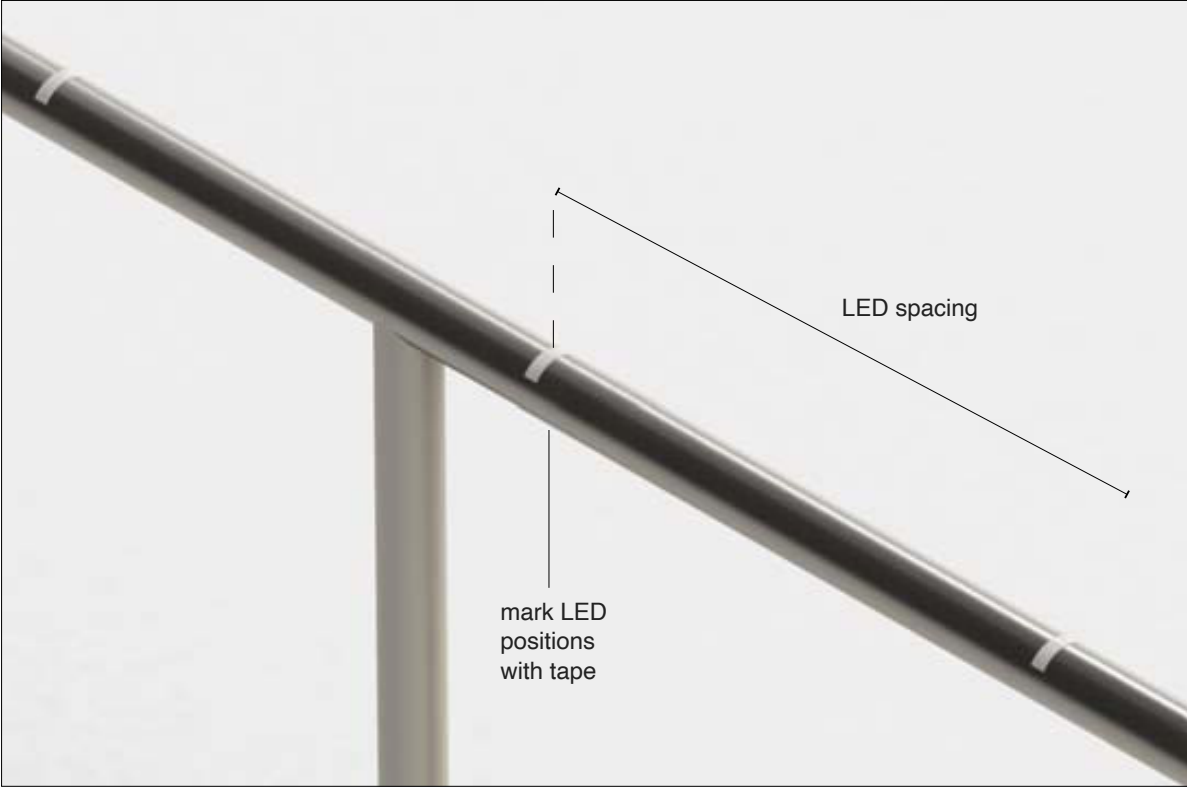

Fig 1.1. Measure and mark the LED Puck positions on the rail.
- 1.1 Measure and mark the LED Puck positions on the rail using a short length of masking tape (Fig 1.1).